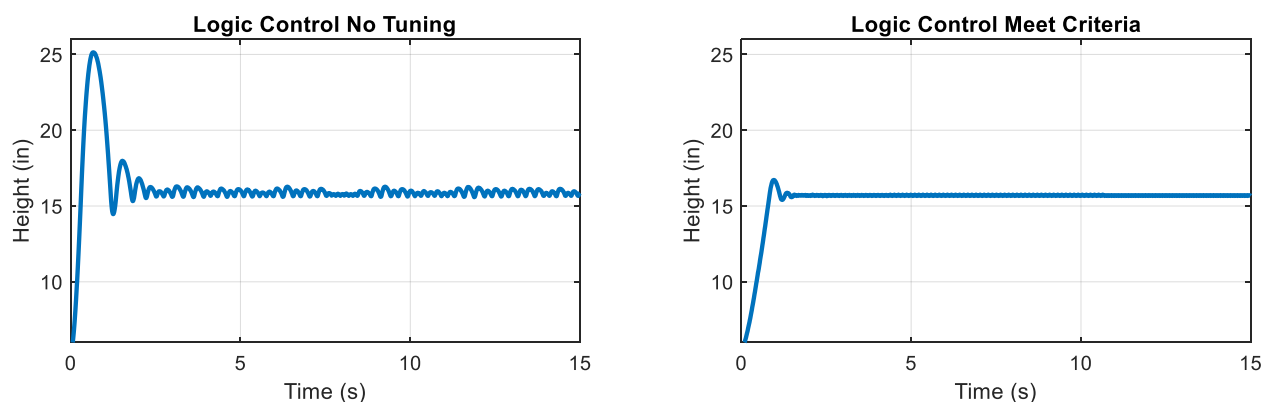

Figure 3. Performance of Logic Controller
6. Plot the height column vector against the time vector. If your controller is working properly, more than likely you should get something similar to Figure 3 (left).
- Heights vs Time (similar to Figure 3 (right))